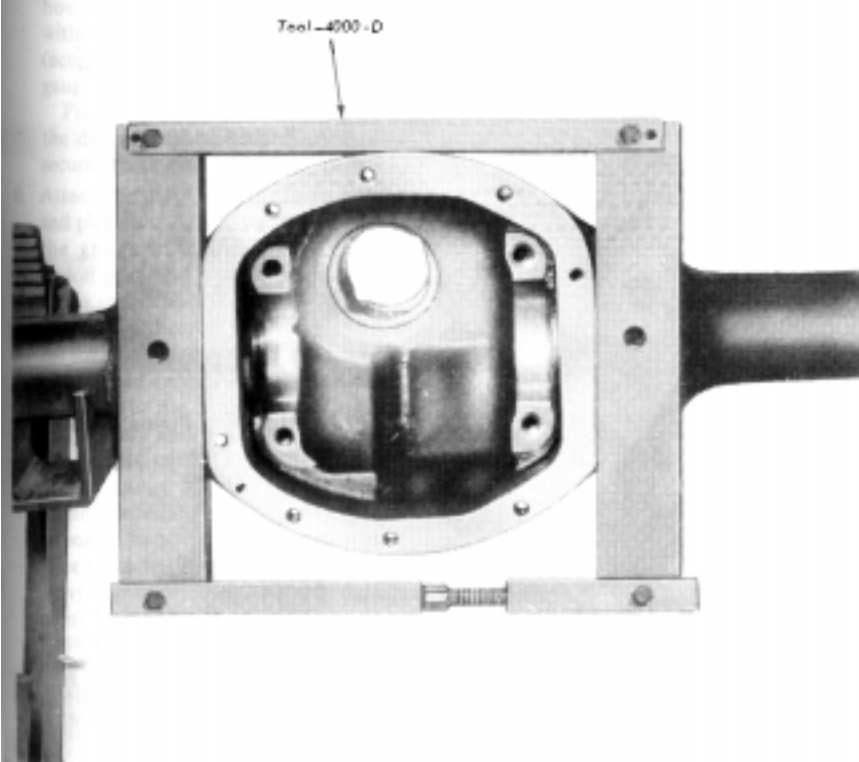

FIG. 12 Spreading Differential Housing
3. Install the housing spreader and adapter (Fig. 12) making sure the tool